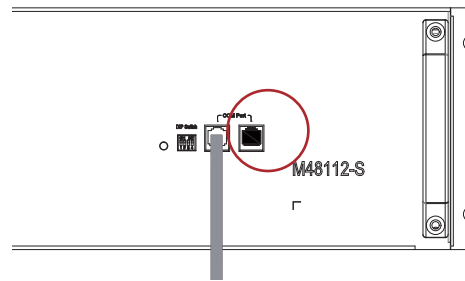

Figure 4-8
B. Take the terminal resistance in the HV900112 parts list and insert it into the bottom of the battery COM port. You can see the detailed information in Figure 4-8.